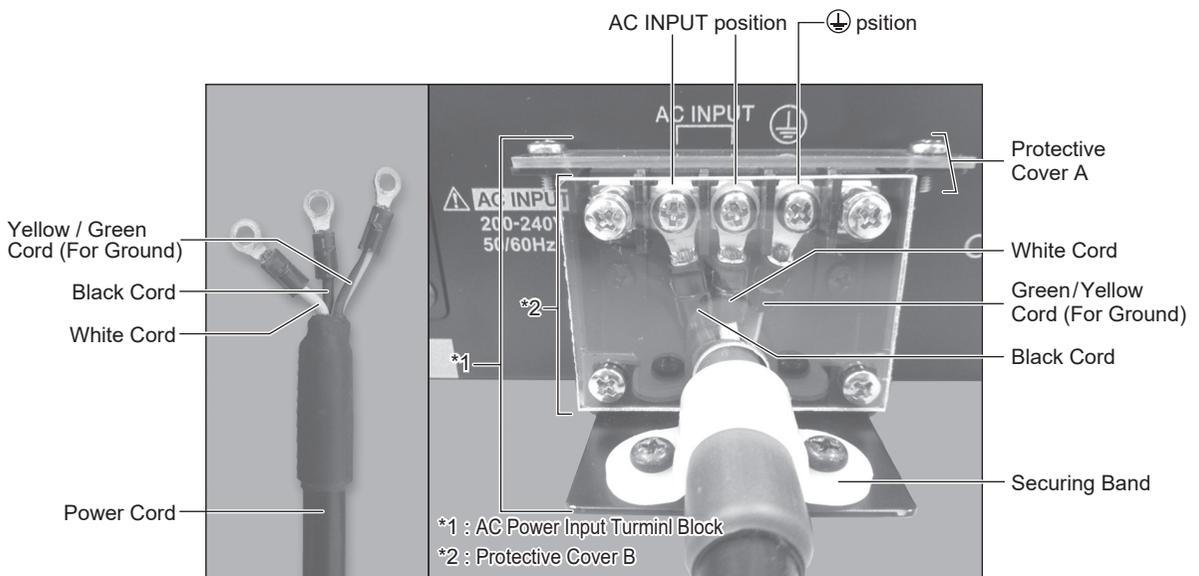

Fig. 16
- (1) Loosen the mounting screws located on Protective Covers A , B and the Securing Band. Remove Protective Covers A , B and the Securing Band from the rear of the **CONTROLLER**.
- (2) The round terminal lugs are attached to the one side of the Power Cord. Remove the Terminal Screw from the AC Power Input Terminal Block. Make sure to connect the round terminal to the AC Power Input Terminal Block securely. (Table. 3, Fig. 16)
- (3) After connecting the Terminal Screw to the AC Power Input Terminal Block, be sure to securely tighten the Terminal Screws.
- (4) Re-Attach the Protective Covers A and B to the AC Power Input Terminal Block by using the original mounting screws.
- (5) Secure the Power Cord using the Securing Band and Mounting Screw.